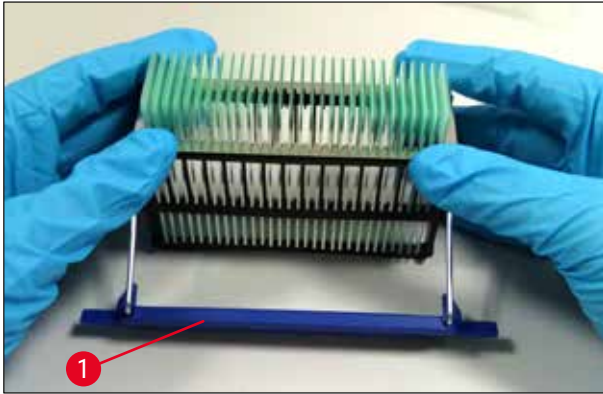

Fig. 35
3. Place the Clip carefully over the specimen slides and take care that only one specimen slide sits in each slot of the Clip (→ Fig. 35).
5. Using both hands simultaneously, carefully press the Clip downwards until it snaps into position (→ Fig. 35).